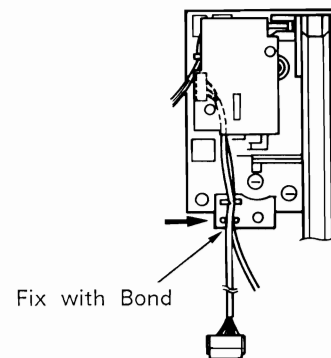

Figure 15
5. Attach the Sensor P. C. Board and fasten in 2 places with screws (39). Pass the leads through the guide pin and fix it with bond as shown in Figure 15.